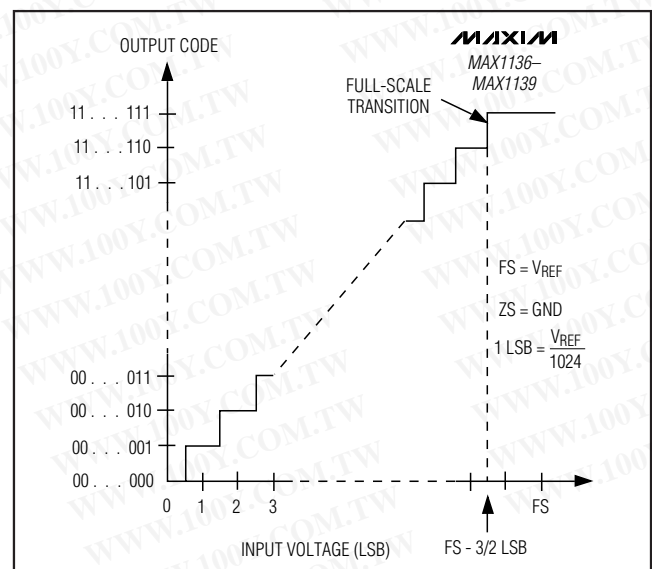
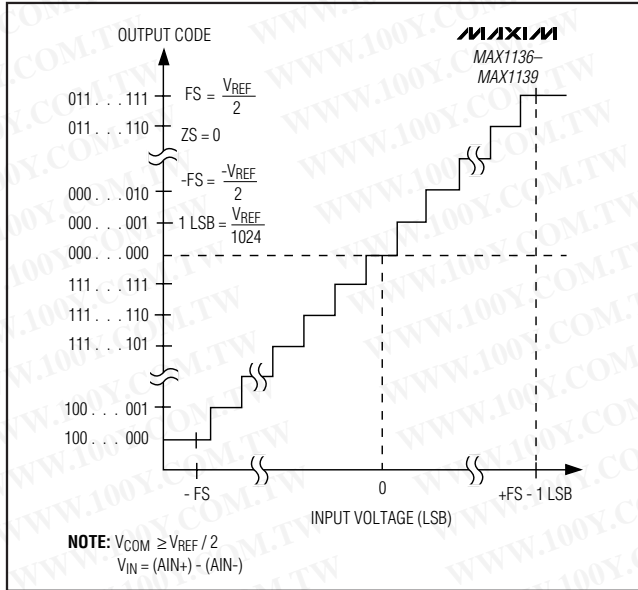

Figure 12. Unipolar Transfer Function
Figure 13. Bipolar Transfer Function
Output data coding for the MAX1136–MAX1139 is binary in unipolar mode and two's complement in bipolar mode with 1LSB = (VREF/2N) where 'N' is the number of bits (10). Code transitions occur halfway between successive-integer LSB values. Figure 12 and Figure 13 show the input/output (I/O) transfer functions for unipolar and bipolar operations, respectively.